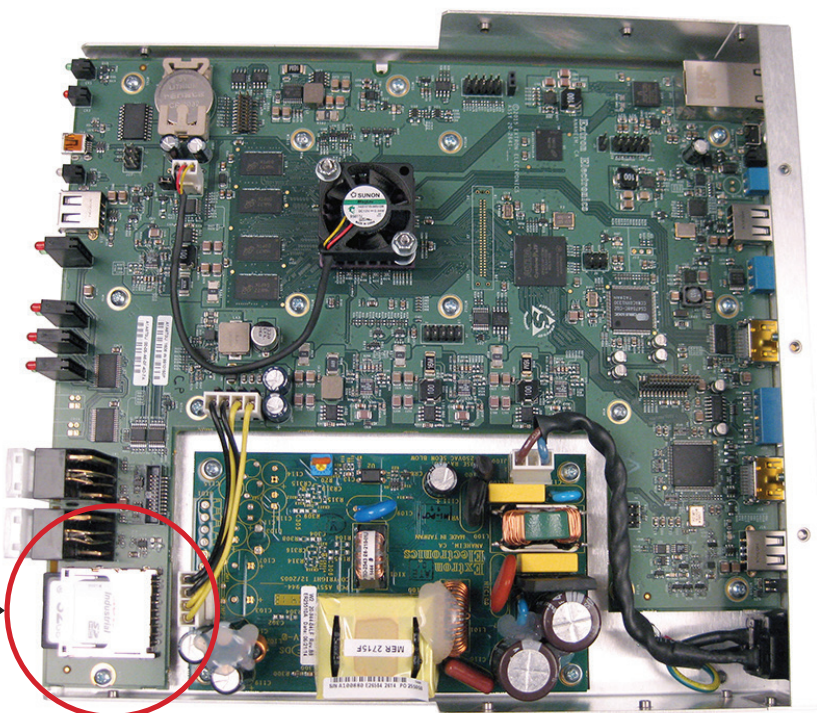

Figure 91. SD Card Location
5. Locate, remove and replace the SD card, near the front panel control buttons (see figure 91).